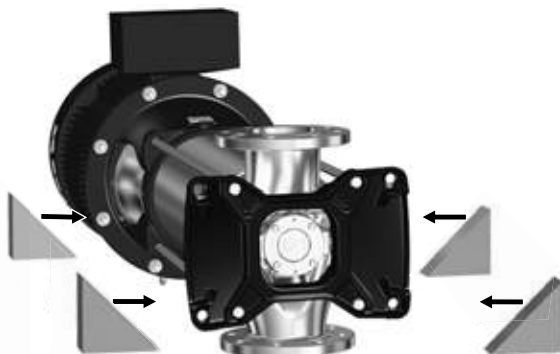

Fig. 14 Inserting wedges to avoid that the pump moves when working on it
3. Drain the pump by opening the vent screw (18) and removing the plugs (25) with o-rings (38).
7. Place the pump horizontally with adequate work space around the pump base (6). Follow the lifting instructions supplied with the pump.
8. Make sure that the pump cannot move when working on it. See fig. 14.